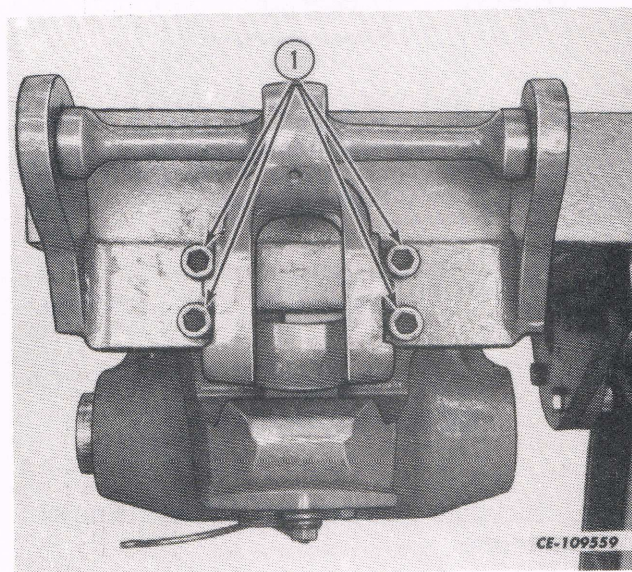
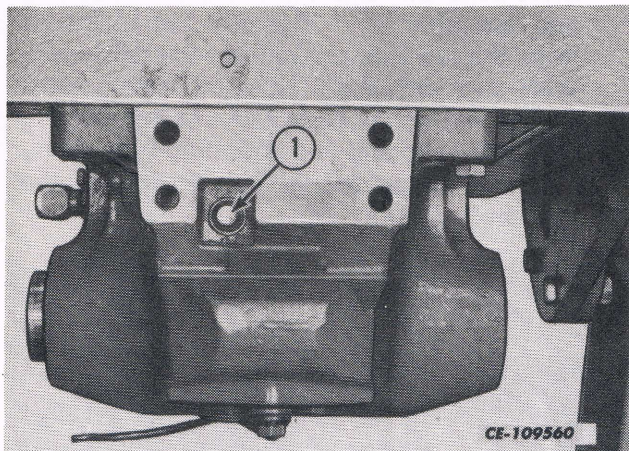
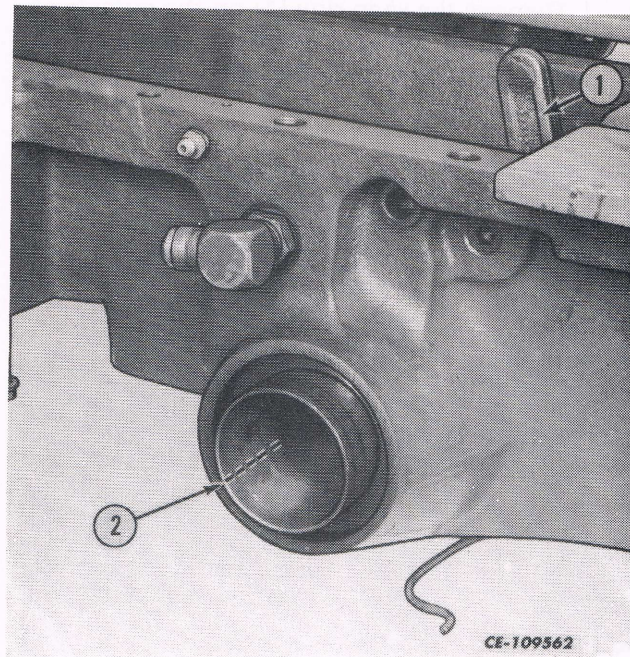

Fig. 27
Fig. 28
Fig. 30
n. Remove the allen capscrews (1, Fig. 27) securing the draft sensing spring assembly to the housing. Remove the draft control rod (1, Fig. 28), bushings and oil seal. Remove the draft control link assembly (1, Fig. 30) if required.